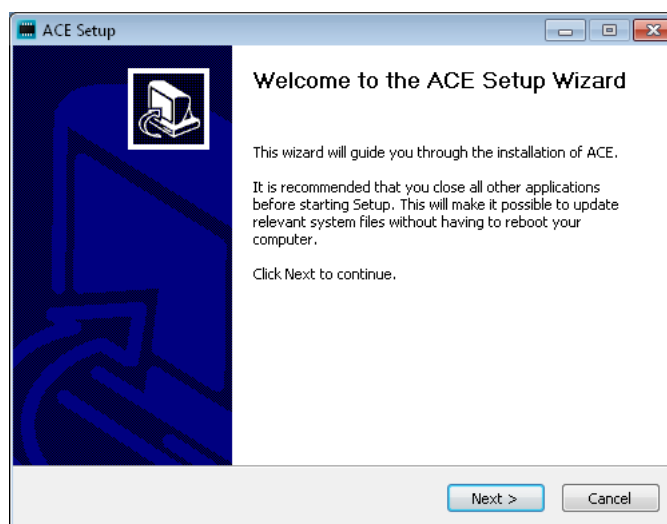

Figure 2.1: ACE Setup Wizard Step 1
**Step 1:** Close all open instances of ACE before clicking "Next" to proceed, Figure 2.1